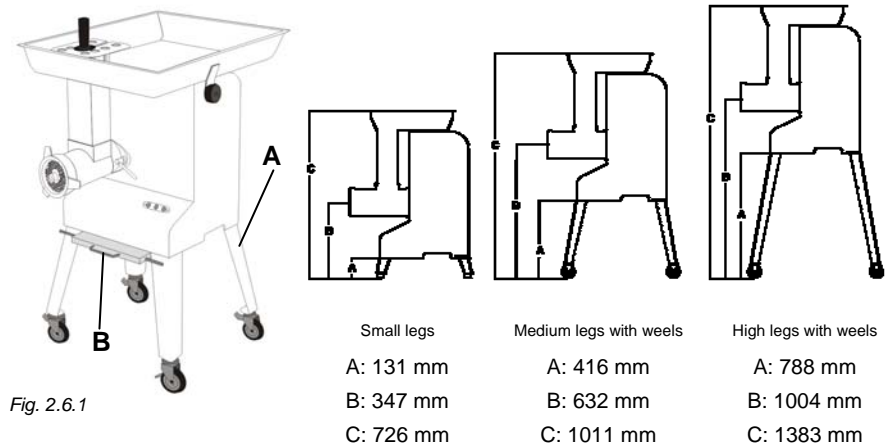

Fig. 2.6.1
2.6.1 Optional trestle with wheels (A fig. 2.6.1)
2.6.2 Optional poliethylene tray (B fig. 2.6.1)